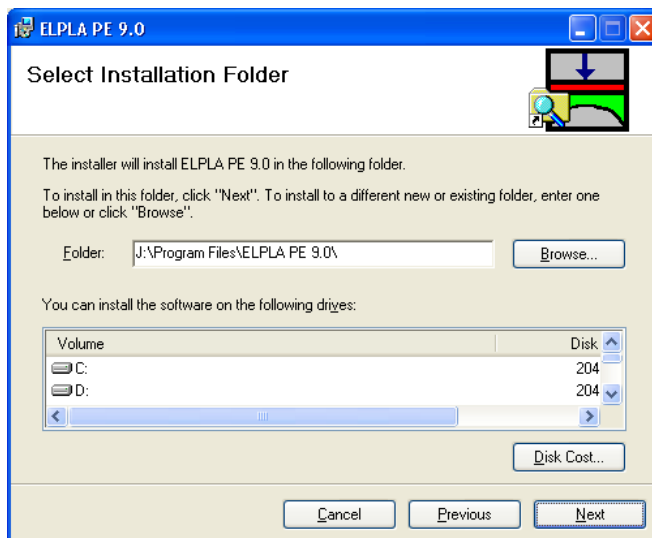

Figure 2 "Select Installation Folder" form
ELPLA Installer program begins execution. Follow the instructions (Figure 2).
- Click "Next" button in the form of Figure 2 to install *ELPLA* software to the specified destination folder